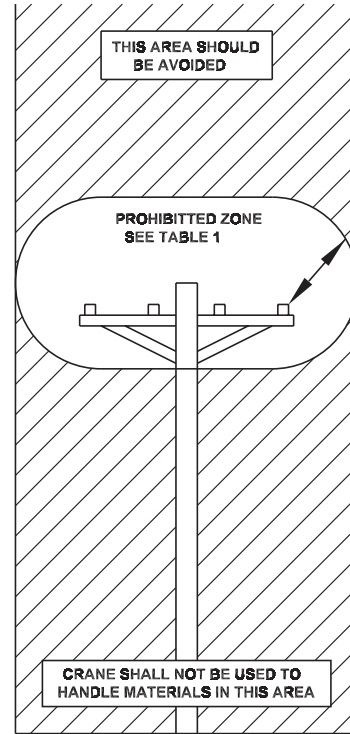

Figure 1
20. When operated near electric power lines, no part of the crane or load may enter into the danger zone shown in Figure 1.